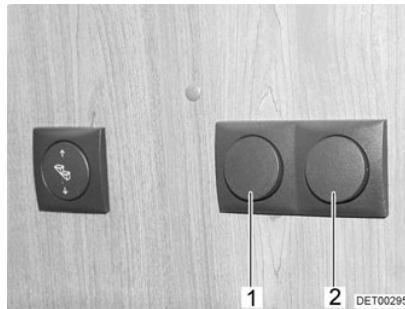

Fig. 18 Light switch, entrance area
- Awning light (Fig. 18,1)
- Seating group lighting (Fig. 18,2)